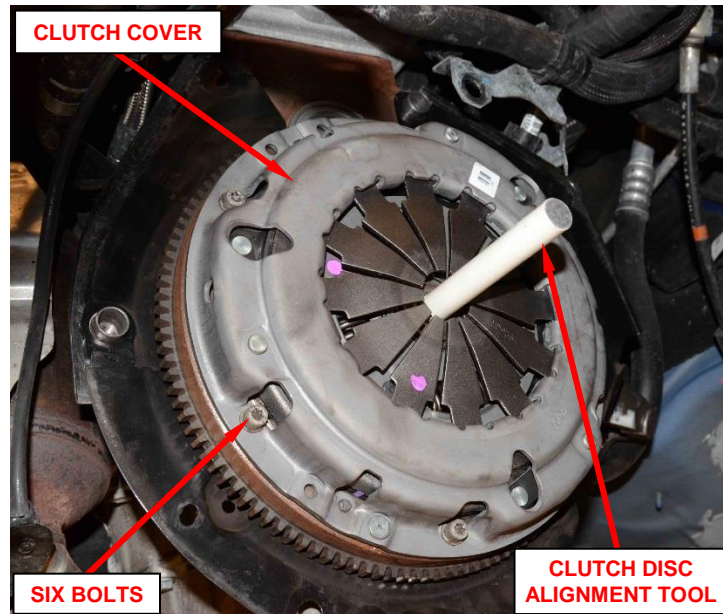

Figure 64 – Clutch Cover Alignment and Bolts
75. Use a suitable 15mm diameter clutch disc alignment tool to center the clutch disc. Inspect around the parameter of the clutch cover to ensure that the clutch disc is perfectly centered (Figure 64).
76. Using a “star” pattern, tighten the six clutch cover bolts to 16 N·m (12 ft. lbs.) (Figure 64).
77. Remove the clutch disc alignment tool from the clutch disc (Figure 64).